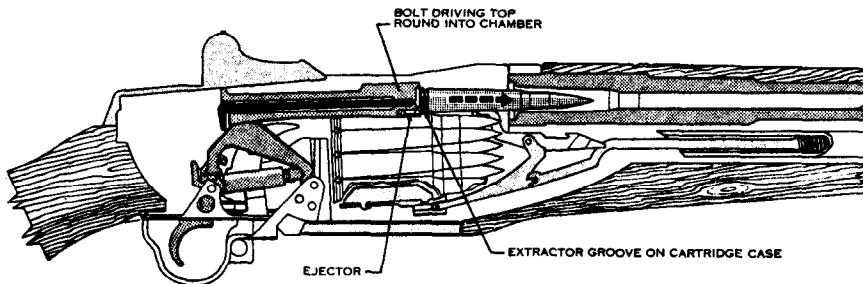

Figure 25. Chambering.
- (2) *Chambering.* Chambering occurs when a round is moved into the chamber. This takes place as the bolt goes forward under pressure of the expanding operating rod spring, picking up the top round in the clip and driving it forward into the chamber (fig. 25). Chambering is complete when the extractor snaps into the extracting groove on the cartridge case and the ejector is forced into the face of the bolt.